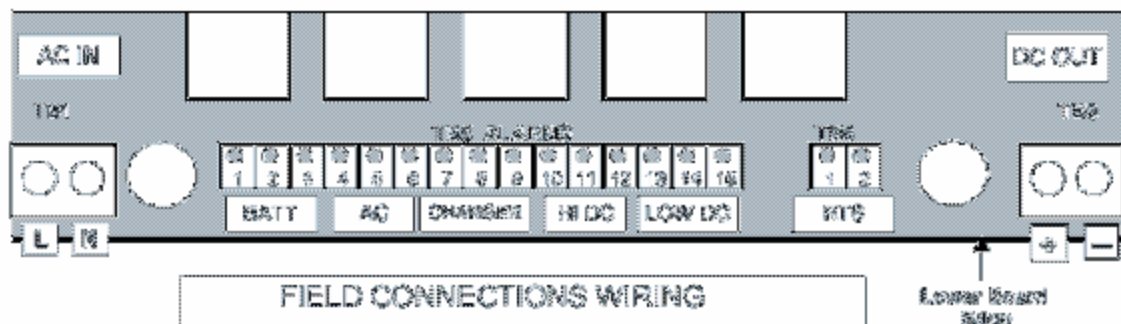

FIGURE 2A
- Connect the DC output conductors to TB3. Make the connections in the order shown in Figure 2A (negative ground) or Figure 2B (positive ground). The terminals accept 10 through 6 AWG conductors.